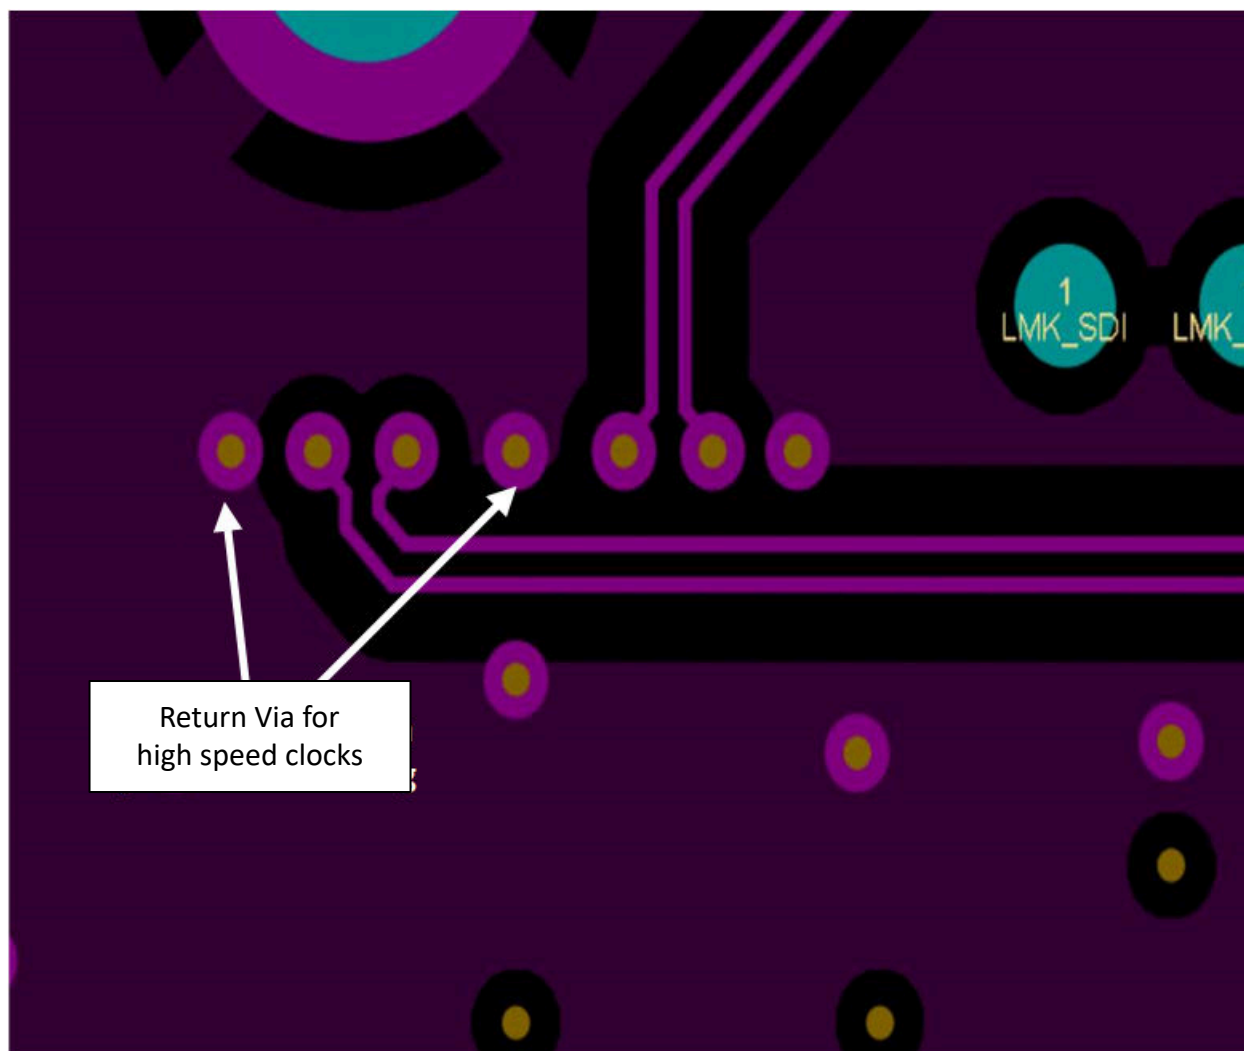

Figure 8-27. Return Vias for High Speed Clock
8. When high-speed signals must transition to another layer using vias, transition as far through the board as possible (top to bottom is best case) to minimize via stubs on top or bottom of the vias. If layer selection is not flexible, use back-drilled or buried, blind vias to eliminate stubs. Always place two ground vias (“return vias”) close to critical high-speed signal trace via when transitioning between layers to provide a nearby ground return path. See Figure 8-27 and Figure 8-28 as examples.